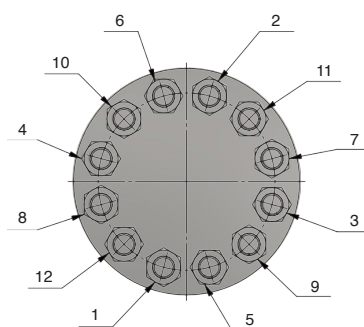

Figure D.1.29 - Recommended re-tighten order
- For high temperature and high-pressure applications after 24 hours of operation, all nuts shall be re-tightened diametrically opposite to design stress Figure D.1.29. This action compensates for any relaxation or creep. Periodic inspection is recommended, thereafter.